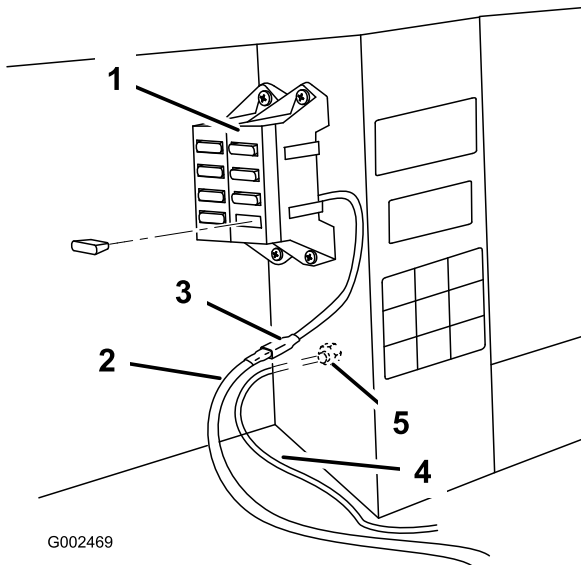

Figure 22
2. Connect the ring on the black wire to the ground bolt (Figure 22).